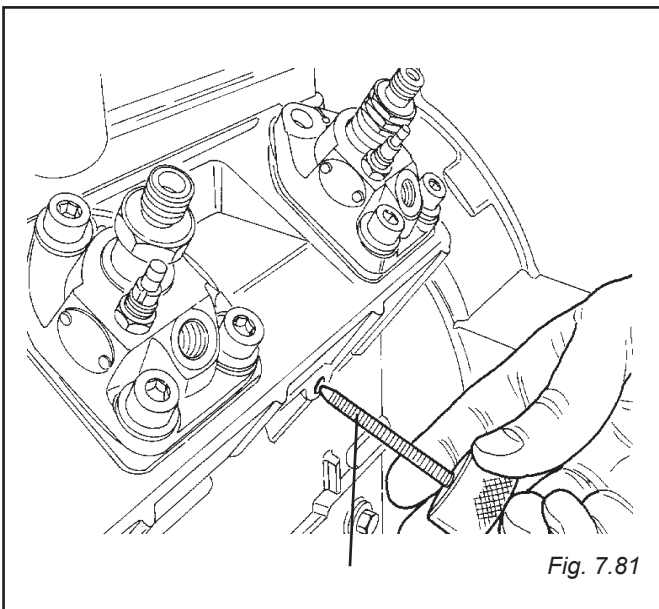

Fig. 7.81
Fitting the special tool (A) (TAB. 11.1 ref. V), the stop blocking rack rod or special tool (A) (TAB. 11.1 ref. U) fig. 7.81.
(Fig. 7.81)